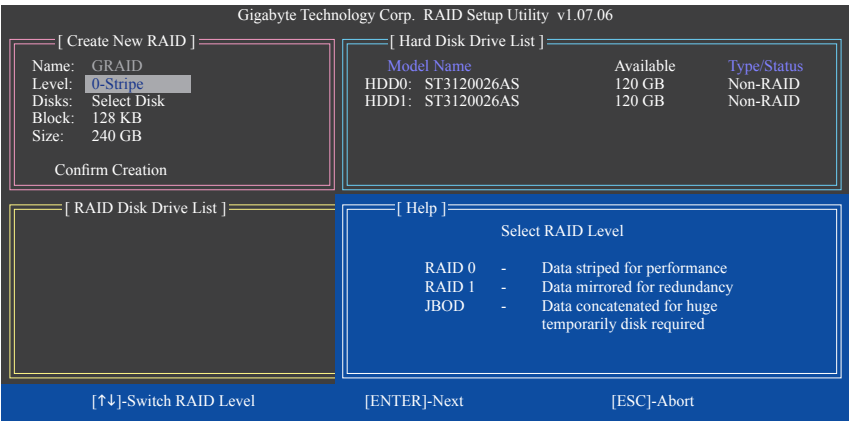

Figure 5
The **Create New RAID** block displays all the items that need to be set for creating an array (Figure 5).
2. **Select RAID Mode:** Under the **Level** item, use up or down arrow key to select RAID 0 (Stripe), RAID 1 (Mirror) or JBOD (Figure 5). Then press <Enter> to move onto the next step.